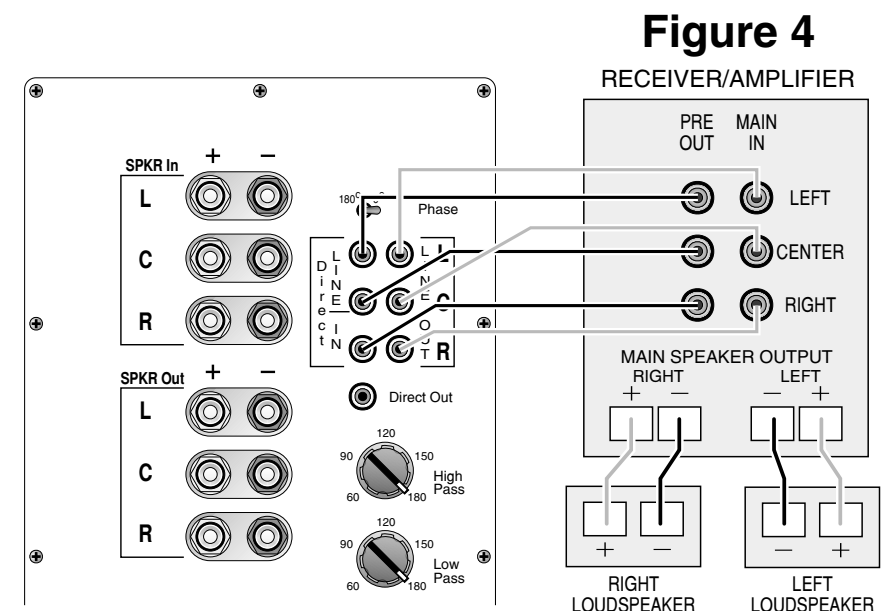

Figure 4
4) If your receiver/amplifier has preamp output jacks and main input jacks for the left and right channels or you have a separate pre-amp/ processor and power amplifier. See Figure 4.